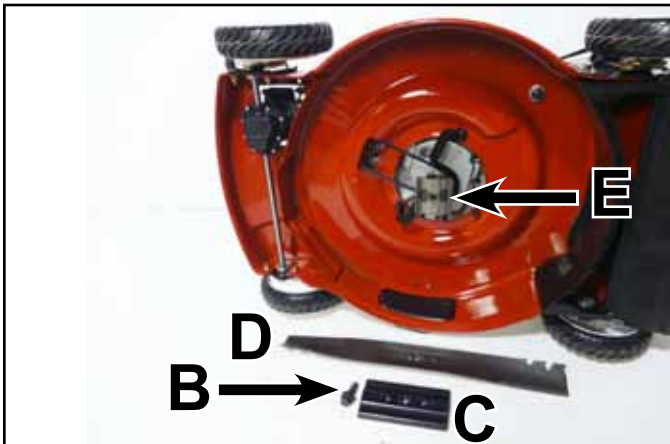

Fig. 152 012
- Remove blade bolt (B), blade support (C), blade (D) and blade driver (E) (Fig. 152).